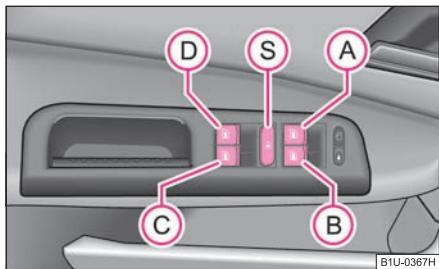

Fig. 36 Buttons on the driver's door
The buttons for the individual windows are located in the armrest of the driver's door ⇒ fig. 36, front passenger door and in the rear doors*.
You can deactivate the buttons for power windows at rear doors by pressing the safety pushbutton (S) ⇒ fig. 36. The buttons for power windows at rear doors are activated again by pressing the safety pushbutton (S) again.
- It is recommended to deactivate the electrically operated power windows in the rear doors (safety pushbutton)  ⇒ page 41, fig. 36 when children are being transported on the rear seats.